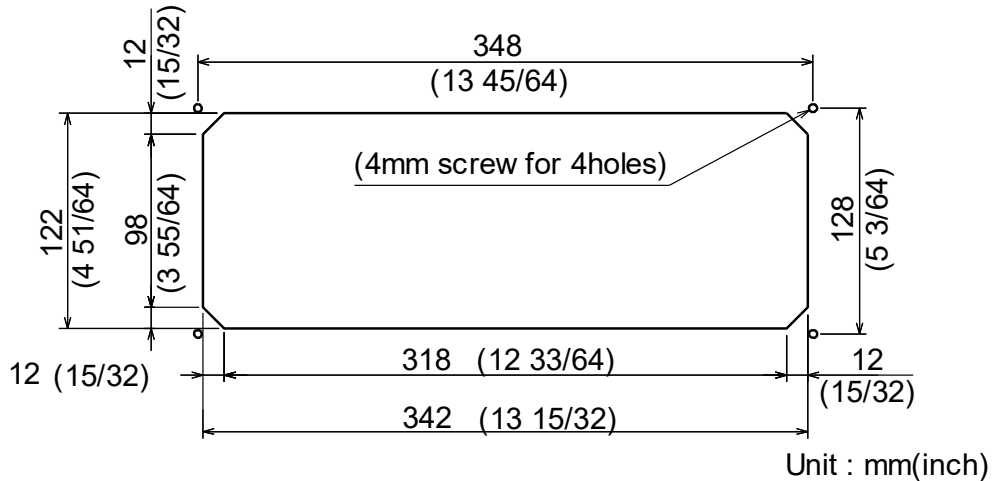

Figure 3.11 Cutout Daigram for Operation unit
- (1) Cut an opening as shown in Figure 3.11 in desired location on a panel.
- (2) Mark position of mounting holes.